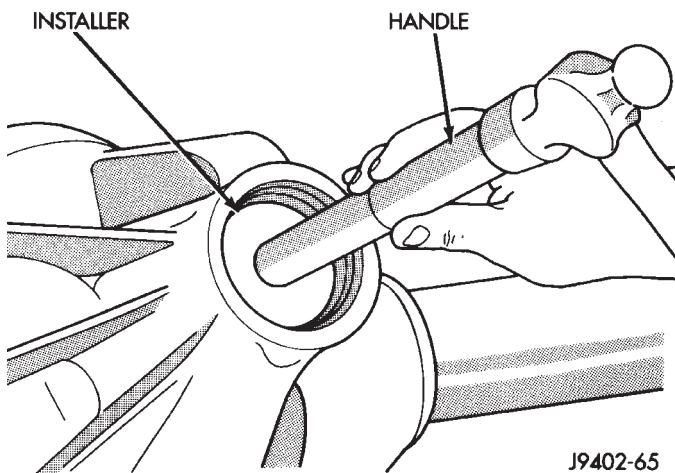

Fig. 47 Pinion Front Bearing Cup Installation
(4) Install the pinion front bearing cup with Installer D-130 and Handle C-4171 (Fig. 47).